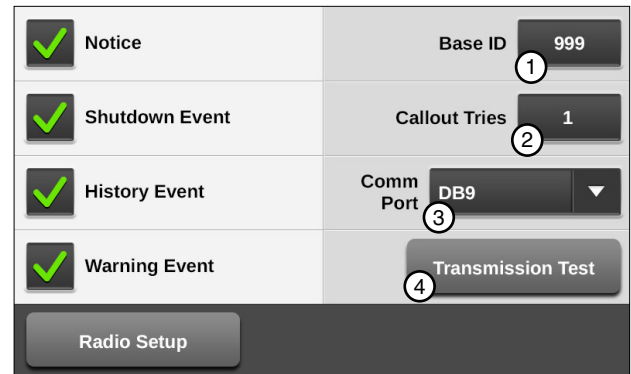

Figure 81-1 Notice Screen
Use Base ID to set the BaseStation identification number in the control panel. The factory default setting is 999. Refer to Figure 81-1.
1. Push **Menu**, **Utilities**, and **Notice** to display the Notice screen. Refer to Figure 81-1.
To transmit current status information, push **Menu**, **Utilities**, and **Notice** and push the **Transmission Test** button. Refer to Figure 81-1.